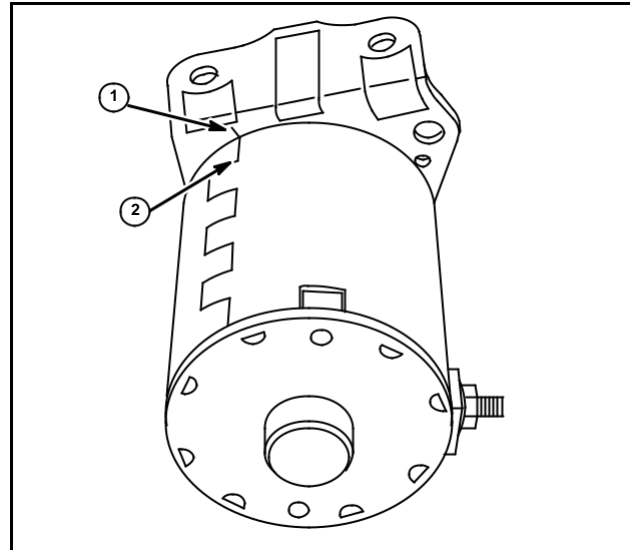

Fig. 74
6. Place drive end cap on starter housing making sure that mark on cap (1) lines up with housing seam (2), Fig. 74.